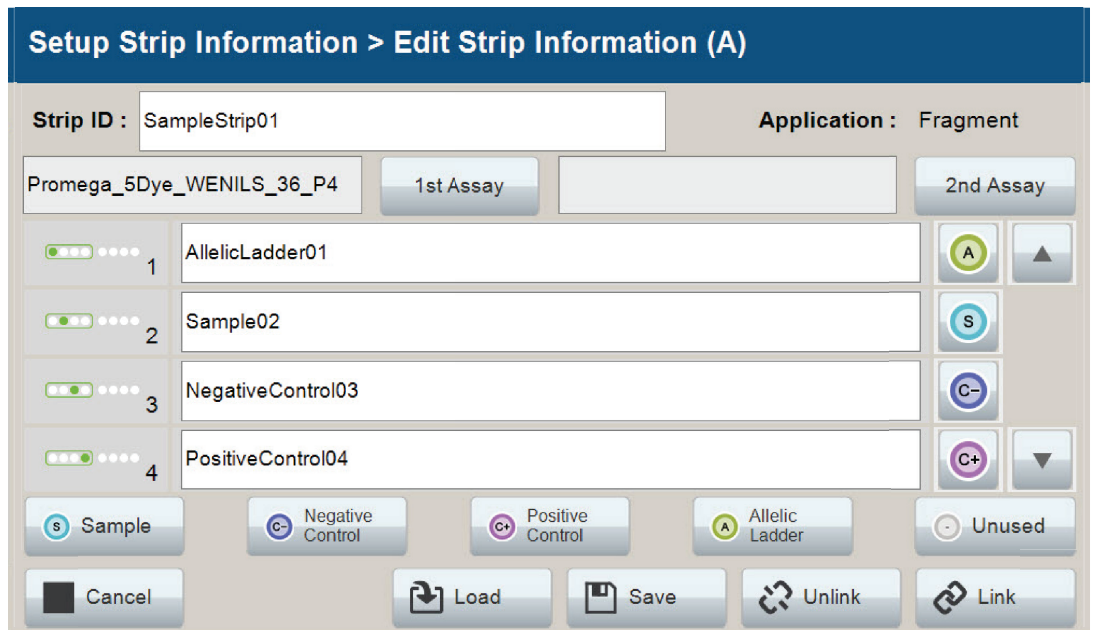

Figure 20. Completed 'Edit Strip Information' screen.
11. When all information is entered and verified for the strip, select **Link** on the lower right corner of the 'Edit Strip Information' screen (Figure 20). This will link the strip to the run. If you want to save the strip information to use in future runs, save the information by selecting **Save** at the bottom of the 'Edit Strip Information' screen (Figure 20). This will save the strip information so that it can be loaded later into another run, as well as link the strip to the run. Refer to the *Spectrum Compact CE System Operating Manual #TMD058* for use of saved strip information.